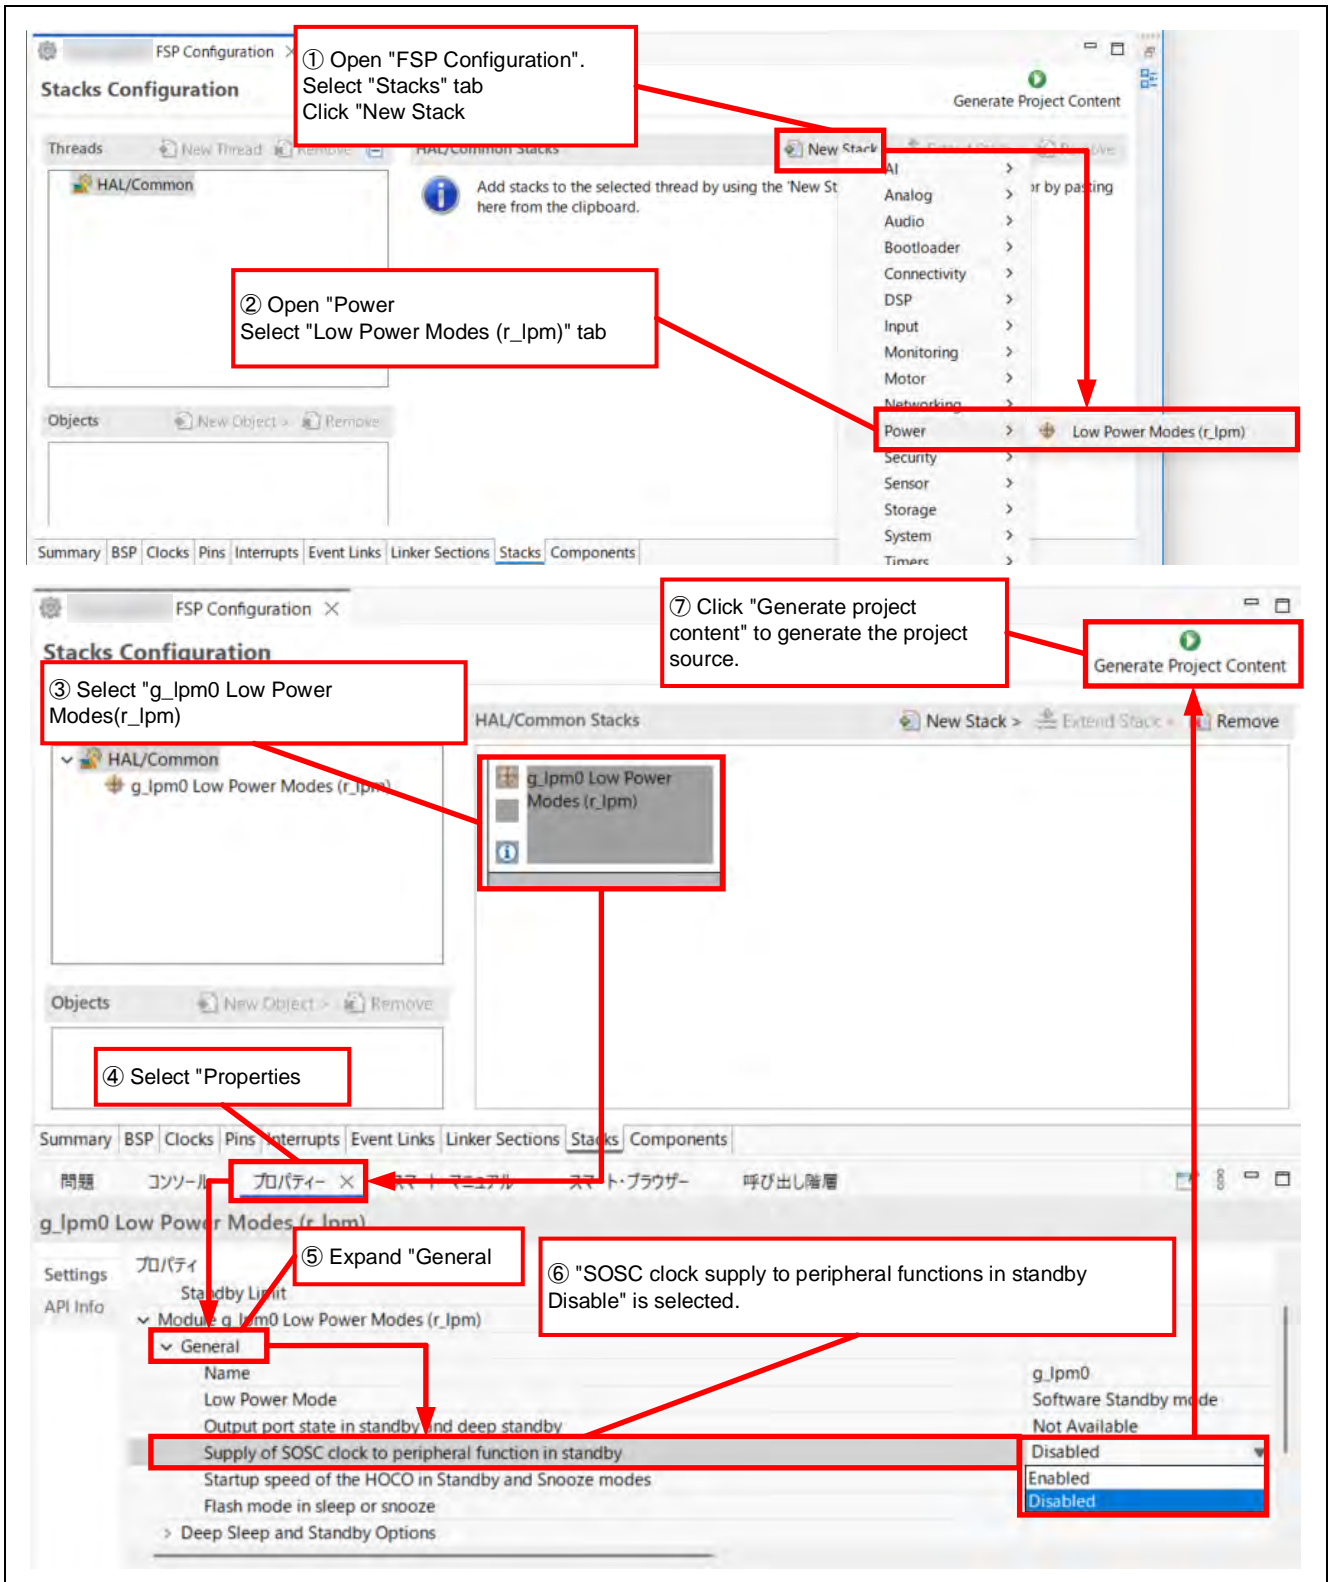

Figure 2-4 SOSC clock supply stop setting
- ② Figure 2-4 shows how to configure the settings in FSP to stop supplying the SOSC clock to peripherals other than the RTC during Software Standby mode or Snooze mode.